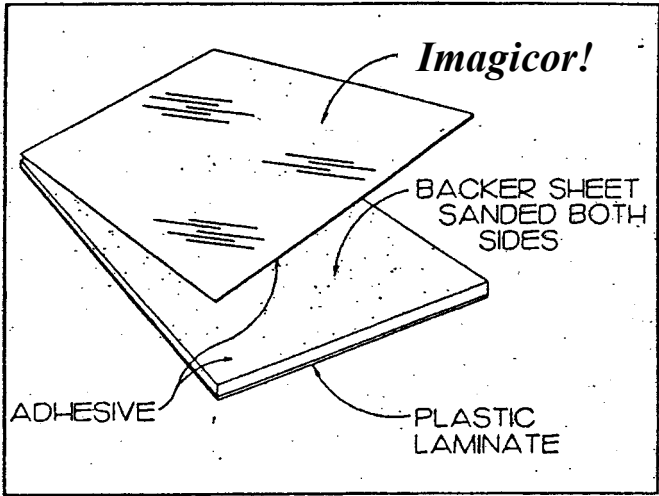

Figure 9
- Adhere the *Imagicor!* face panel to the substrate. See Figure 9.